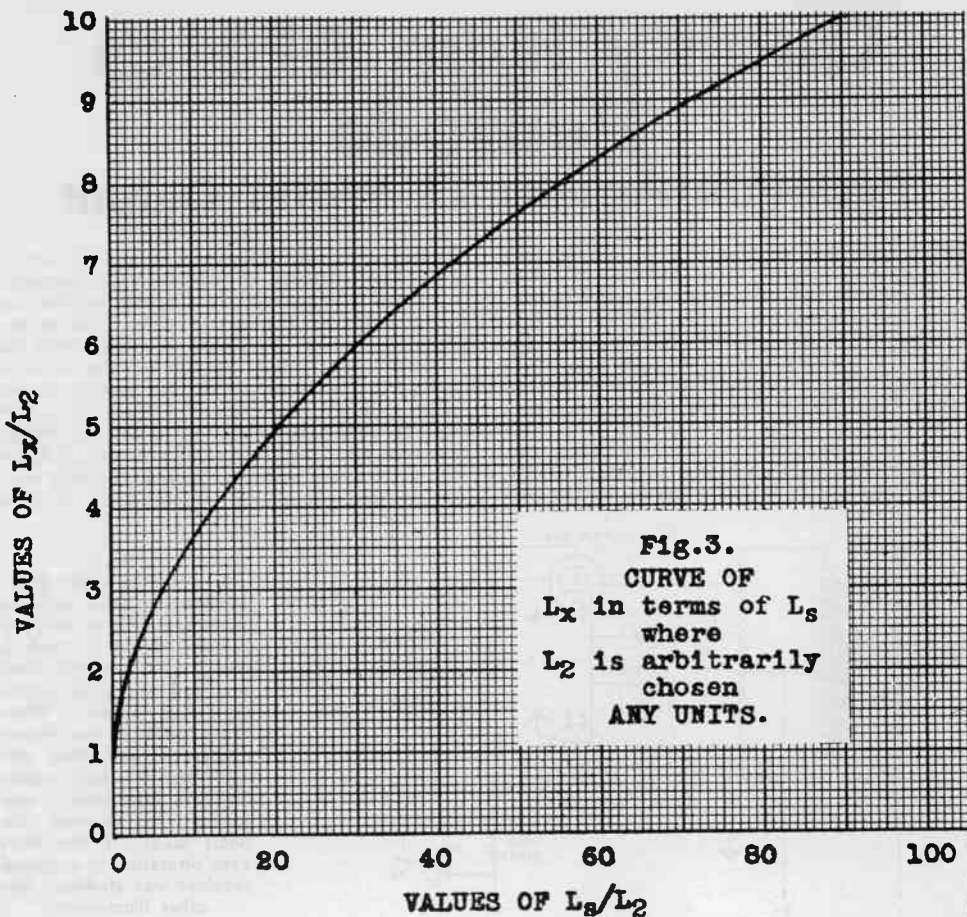

FIG. 3.
Should we express L_s in terms of L_x , we can then plot (2) in terms of L_x and L_s . This is equivalent to taking L_s as the unit of measurement, assigning it a value of one, for instance. In this manner, Fig. 3 was drawn.
The curve, Fig. 3, will be found on following page.